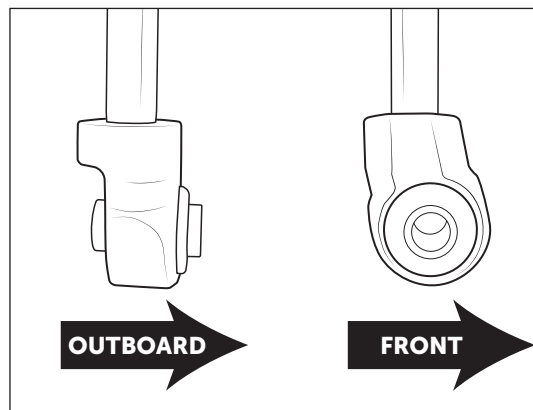

Figure 4
4. Position the lower shock eyelet so that the bushing is offset forward and outboard relative to shock shaft (fig. 4).